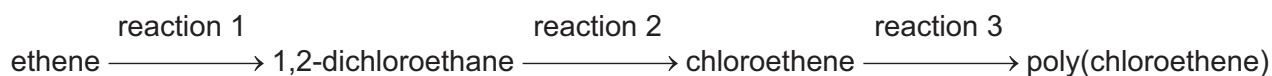

Figure 5.1
- 5 Figure 5.1 describes a sequence of reactions starting with ethene to produce poly(chloroethene), PVC.